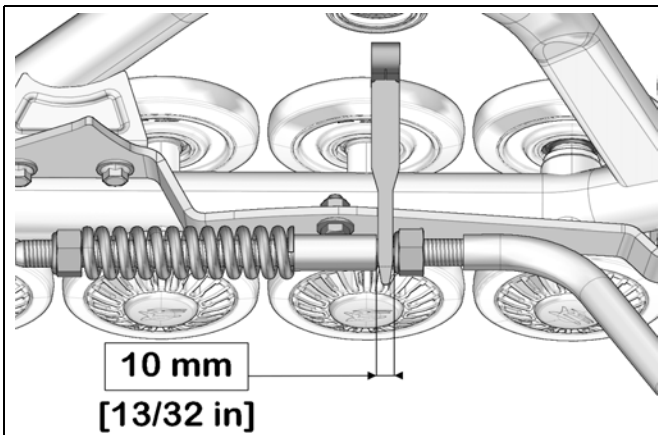

Figure 11
- **IMPORTANT:** Double-check 10 mm minimum distance between nut and stabilizing arm guide. Re-adjust as needed. See Figure 11.